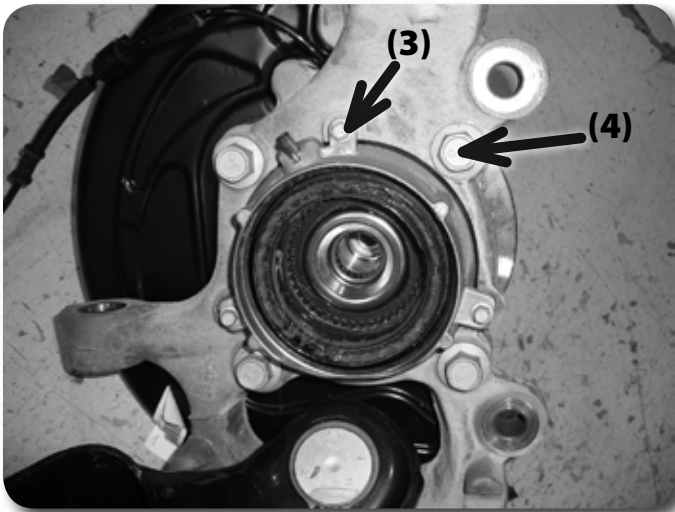

Figure 25
46. Remove the four hub bolts from the knuckle and remove the hub from the knuckle **Figure 25**. Inspect mounting surface of the hub assembly and clean any dirt or corrosion off as necessary.